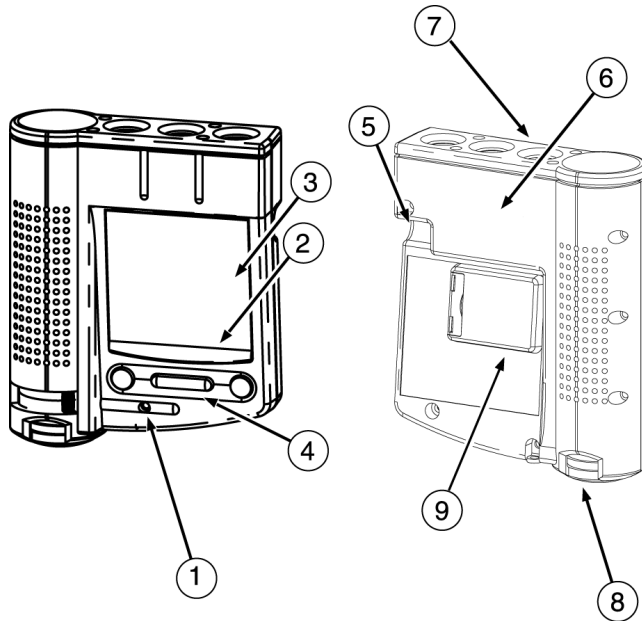

Figure 1. BW Defender2 Detector
- Figure 1 and Table 3 describe the detector's components.